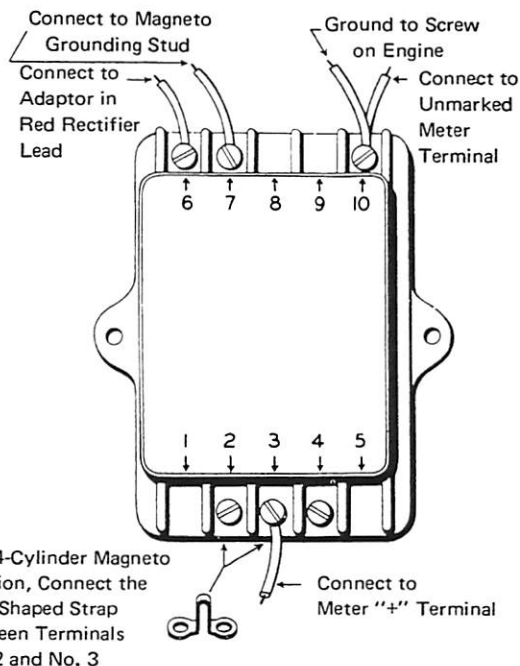

Figure 2. Wiring for 4-Cyl. Magneto Ignition System
1. Connect terminals Nos. 2 and 3 together on transmitter with U-shaped strap. (Figure 2)